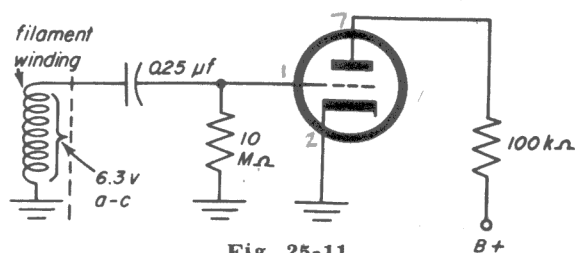
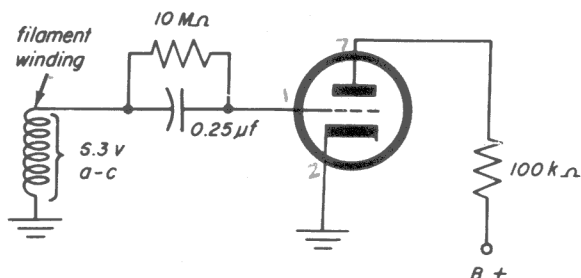

Fig. 25-11
Fig. 25-13
capacitor on the capacitor breadboard. Connect the other end of the capacitor to pin 2 of the 6X5-GT tube socket, as shown in Fig. 25-11. Compare your chassis wiring with this figure, and proceed with the experiment when your connections are correct.
Discussion. This experiment shows that applying a signal to a circuit such as that shown in Fig. 25-11 causes a d-c bias voltage to be developed across the grid-leak capacitor by the grid current, which flows during every positive half cycle of the signal voltage. This voltage appears in turn across the 10-megohm grid resistor (the drop across the 330-ohm resistor is so very slight that we may ignore it). The polarity of the charge is such that the grid is at a negative potential with respect to the cathode. If the time constant of the resistor-capacitor combination is made large enough so that the capacitor discharges very little between positive peaks of the input signal, the amount of bias developed will be very nearly equal to the peak value of the input signal. In this experiment, the time constant in the grid circuit is very large, and the d-c bias
Step 1. Disconnect the 10-megohm resistor from pin 1 of the 6AT6 tube socket and lug 1 of TS-D. Connect the 10-megohm grid resistor across the 0.25-μf capacitor on the capacitor breadboard. Your circuit should now be as shown in Fig. 25-13.
Discussion. The d-c bias obtained with the circuit arrangement shown in Fig. 25-13 is the same as the d-c bias obtained with the circuit arrangement of Fig. 25-11 used in the previous experiment. There is very little difference between the two circuits.